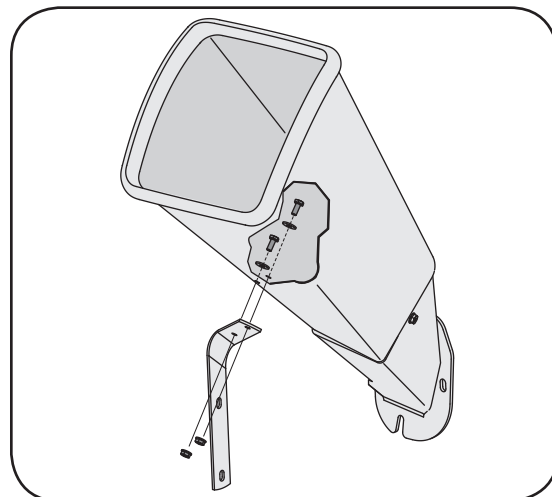

Figure 3
3. Loosen, but do not remove, the two hex bolts, flat washers, and flange nuts which are secured to the support bracket. See Figure 3.